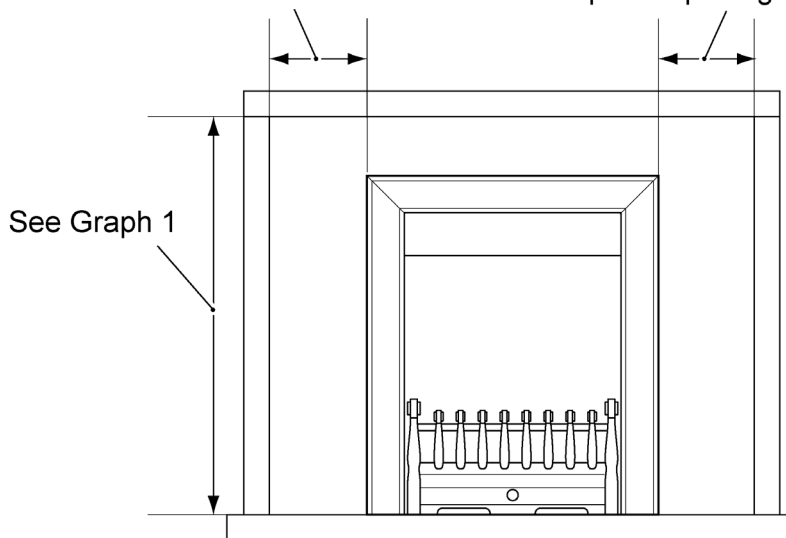

Figure 3. Appliance Clearances.
3.14 Combustible side projections up to 75mm forward of the fixing plane of the fire are to be a minimum of 125mm from the fireplace opening (See figure 3)
3.14.1 Combustible side projections greater than 75mm forward of the fixing plane of the fire are to be a minimum of 250mm from the fireplace opening (See figure 3).
3.14.2 Non-combustible side projections to be 75mm from the fireplace opening (See figure 3)